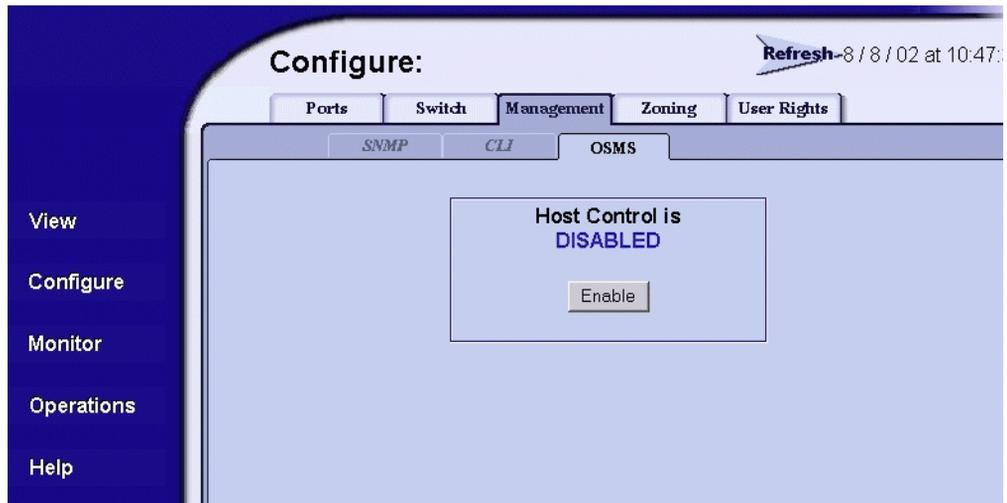

Figure 2–12: Management page—OSMS tab
1. At the **Configure** window, click the **OSMS** tab. The **Management** page displays with the **OSMS** tab selected, as shown in Figure 2–12.